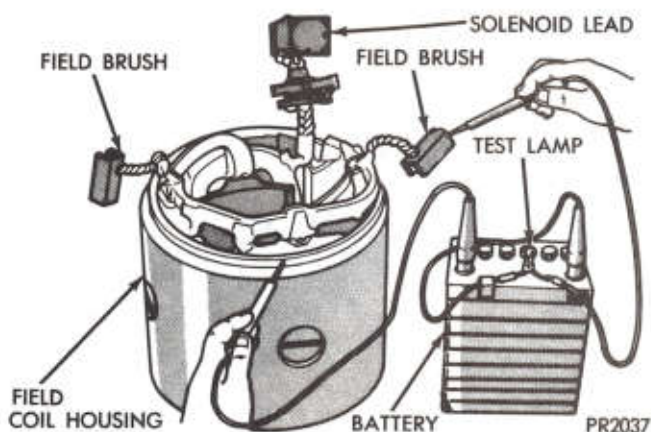

Fig. 3—Testing Fields (Typical)
(1) Touch one probe of test lamp to series field lead and other probe to field frame. Lamp should not light (Fig. 3).